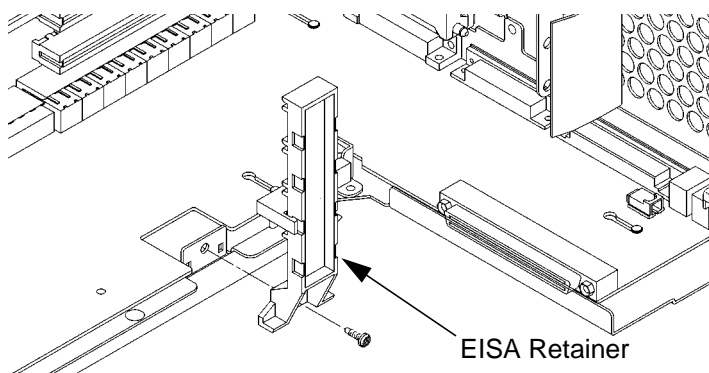

Figure 51
- 3 Remove the screw from the EISA retainer, and remove the EISA retainer, as shown in Figure 51.